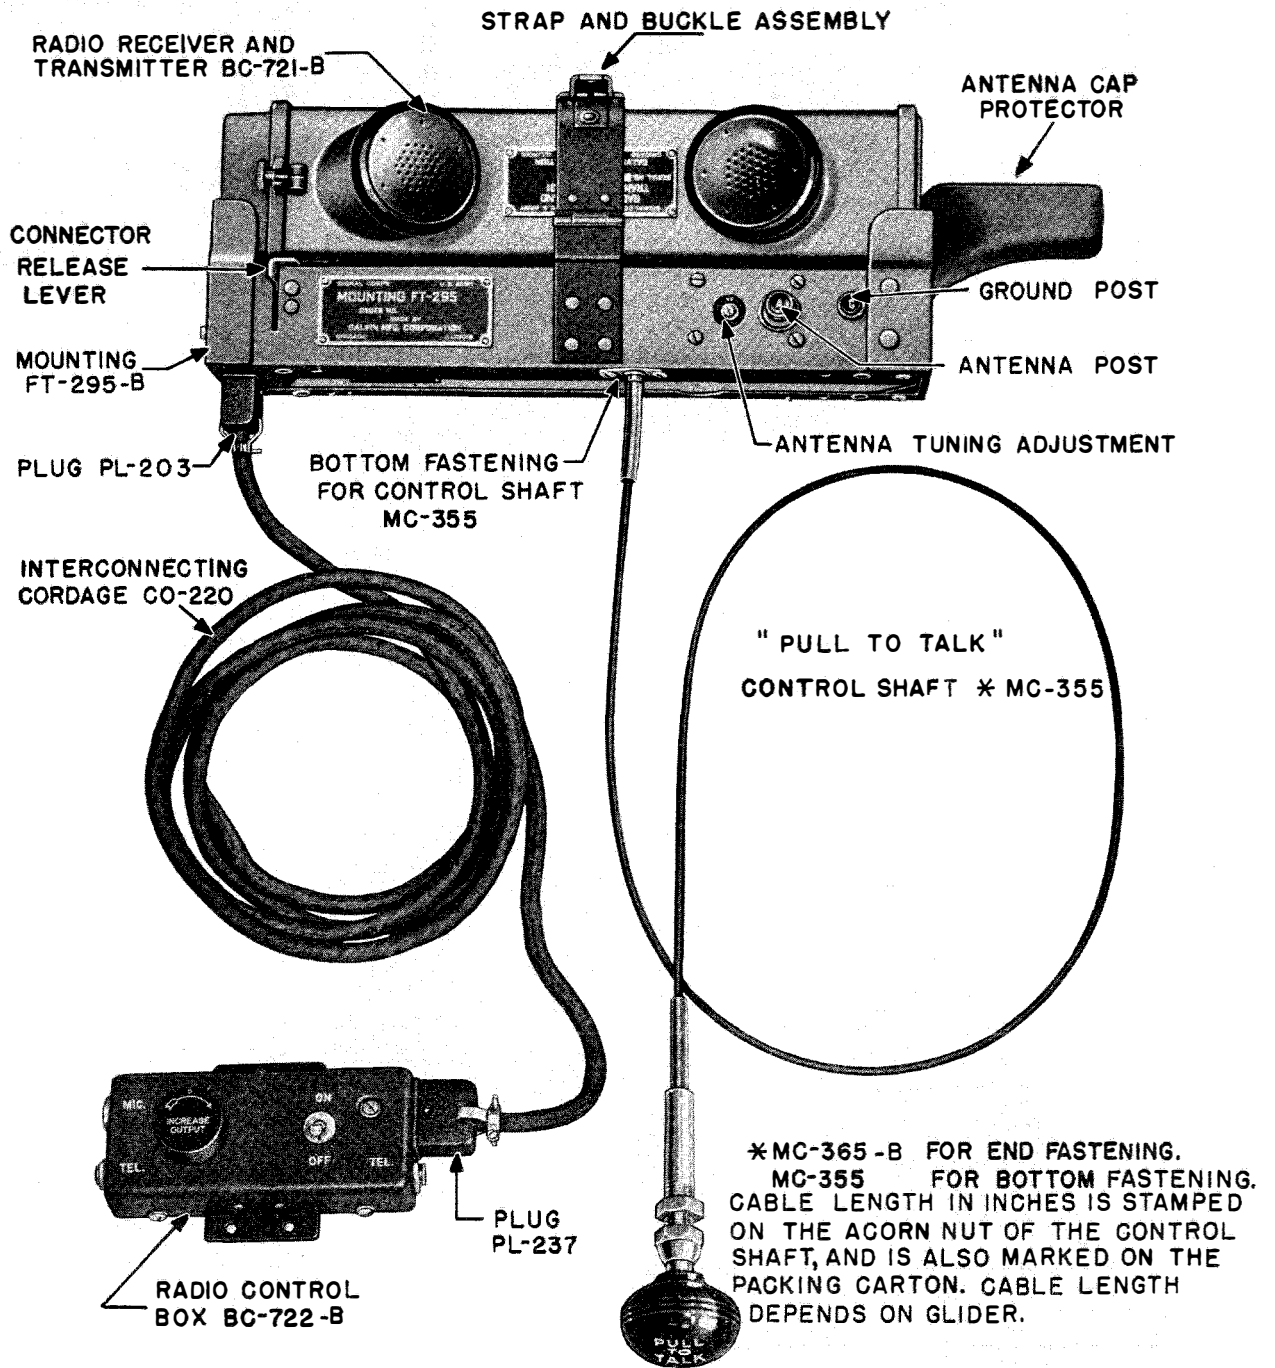

FIG. 4. RADIO SET SCR-585-B, USING BOTTOM-FASTENING CONTROL SHAFT MC-355]
e. Radio Control Box BC-722-B.—This box contains the ON-OFF power switch, INCREASE OUTPUT volume control (receiver volume), jacks for the headphones and microphone, a microphone transformer, and male Connector SO-217. See Figs. 4 and 8.
14. ADJUSTMENT OF THE ANTENNA TUNING CAPACITOR.—Place an 0-100 r-f milliamperemeter (See Note) in series with the antenna external lead at the “A” binding post on Mounting FT-295-B, keeping all connecting wires as short as possible. Snap on the ON-OFF switch on Radio Control Box BC-722-B to the “ON” position and pull out the “PULL-TO-TALK” knob. Adjust the capacitor located near the antenna binding post for maximum deflection on the meter, using an insulated screw-driver. *With a $\frac{5}{16}$ ” wrench tighten the cap nut to lock the capacitor securely in place.* See Figs. 4 and 8. The “PULL-TO-TALK” knob should not be held out longer than is necessary to adjust the antenna tuning capacitor, as this shortens the life of the batteries. Disconnect the r-f meter and replace the antenna lead on binding post “A” on Mounting FT-295-B. The radio set is now ready for use in the glider. NOTE: A 0-50 ma r-f meter will be satisfactory for antenna capacitor adjustments in most cases. *If no other meters are available, the 50 ma r-f meter supplied as part of Test Equipment IE-17-B can be used for this adjustment. The range can be extended to 100 ma by shunting the meter with a 5 ohm non-inductive resistor.*